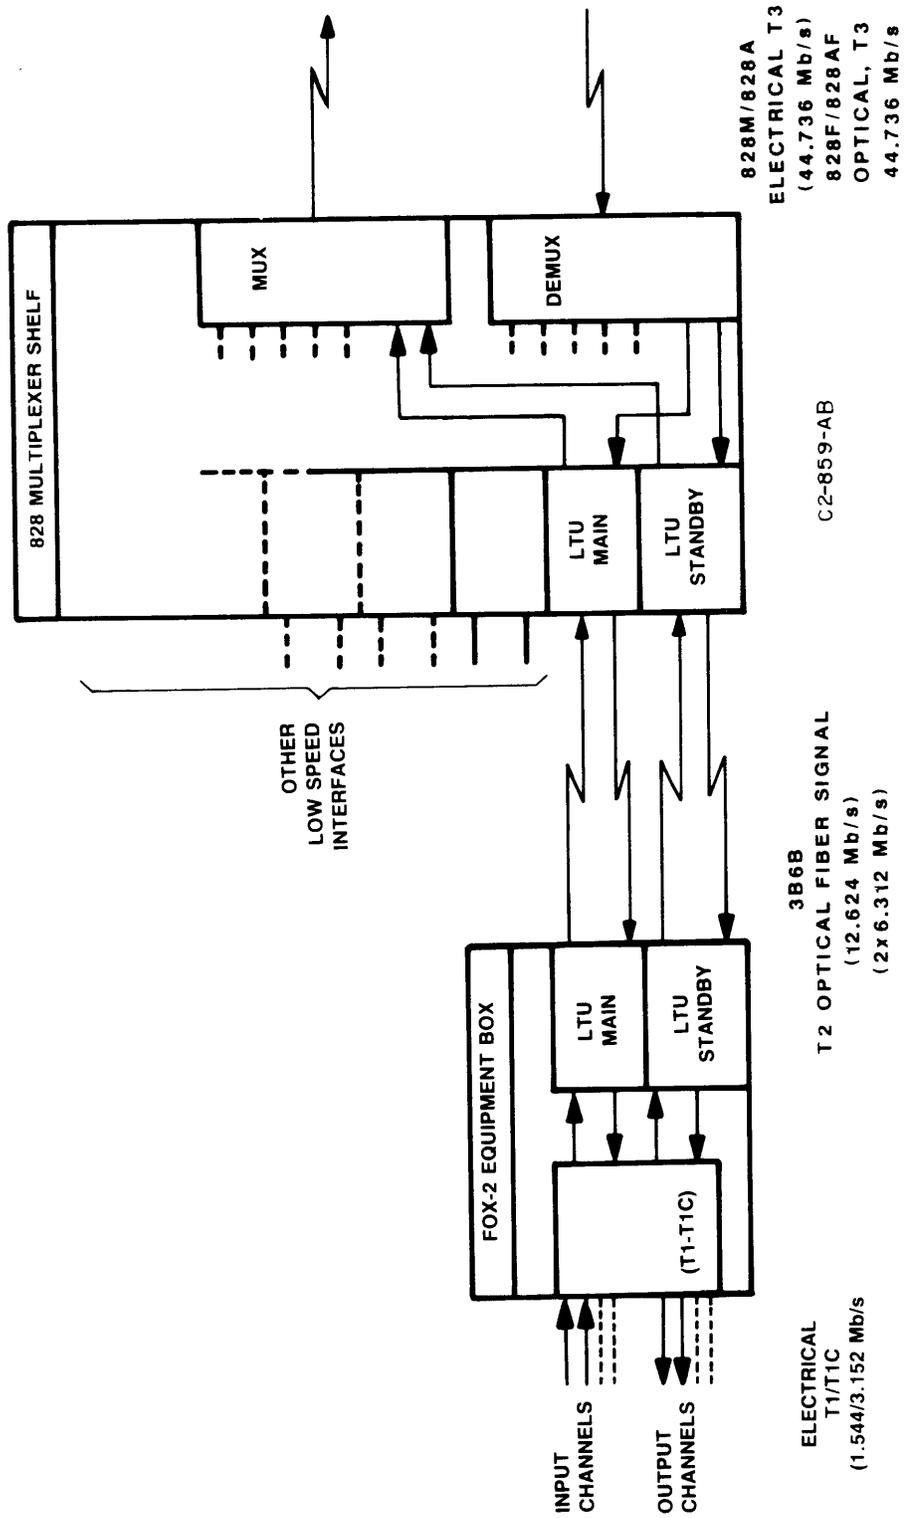

Figure 3. FOX-2 to 828 Multiplexer Fiber Optic System
3.07 Figure 3 depicts the extension of a FOX-2 from an 828 multiplexer product. Up to 6 protected FOX-2 units can be extended from an 828.